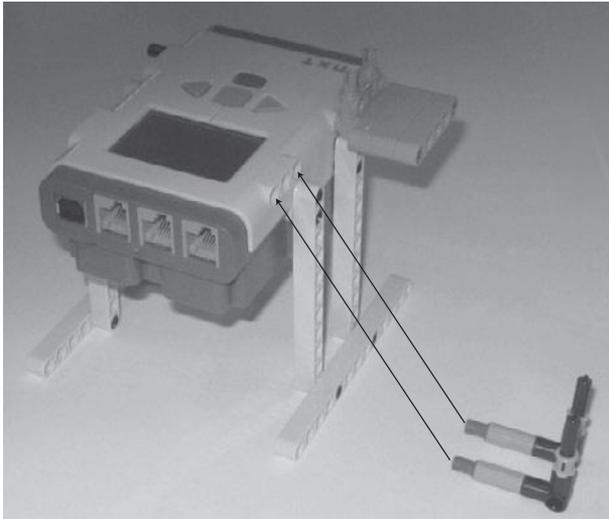

Figure 12.12
Step 3: Connect both sets of support struts to the framework base, as shown in Figure 12.12.